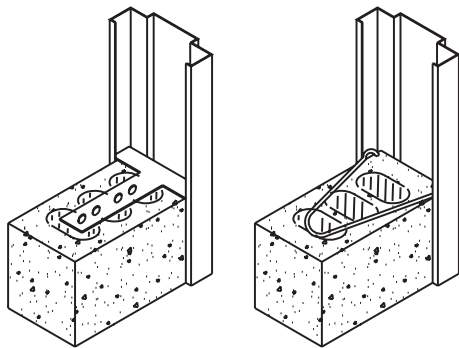

Figure 8 – Masonry anchors
5.4 Install anchors (See Figure 8). Utilize mortar in the area of all anchors ensuring each anchor is embedded into the masonry joint. When grouting of frames is specified or required, adhere to the project specifications listed therein (See SDI’s *Risks of Grouting Hollow Metal Frames* at www.steeldoor.org).